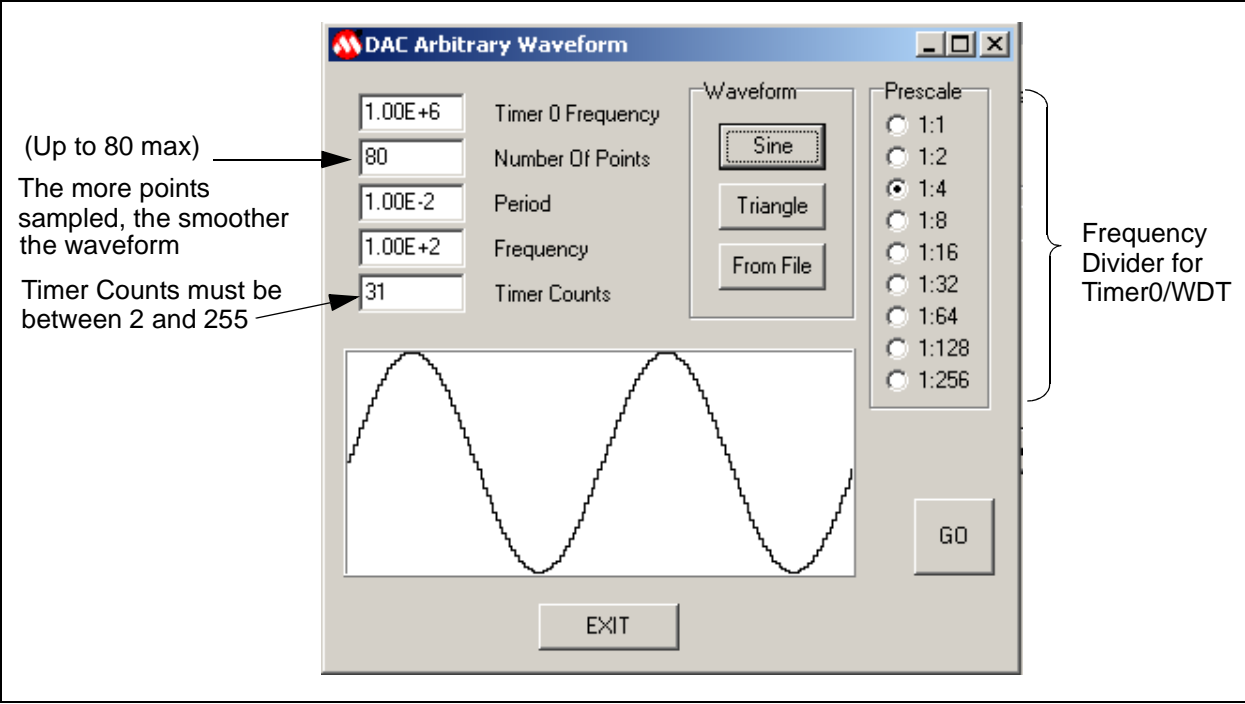

Figure 2.10: Sine Wave Example
1. A sine wave (see Figure 2.10)
Figures 2.10 and 2.11 show examples of utility generated sine and triangle waveforms respectively.